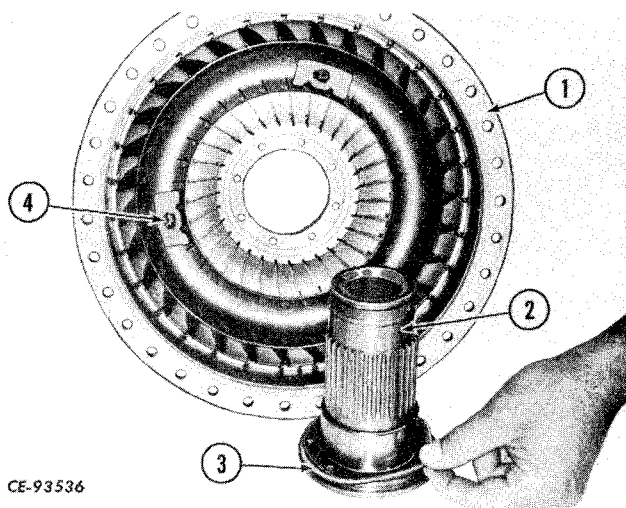

Figure 3-23
Withdraw the impeller hub (2, Fig. 3-23) from the impeller (1). Remove and discard the seal ring (3).
Check the turbine, impeller, stator and cover for cracks or flaking. Inspect the welds on the cap screws (4, Fig. 3-23) that secure the impeller shroud. If spot weld is cracked or broken measure size of weld. Clean all weld from cap screw and retaining plate. Install cap screw and retaining plate and tighten screw to recommended torque.